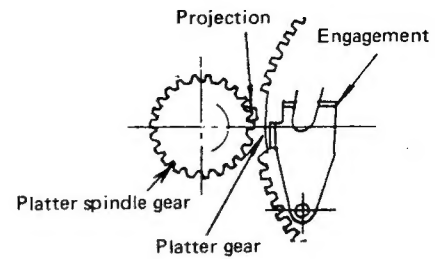

Fig. 2
1. During playing, the notch of the main gear position relative to the turntable spindle gear is as shown in Fig. 2.